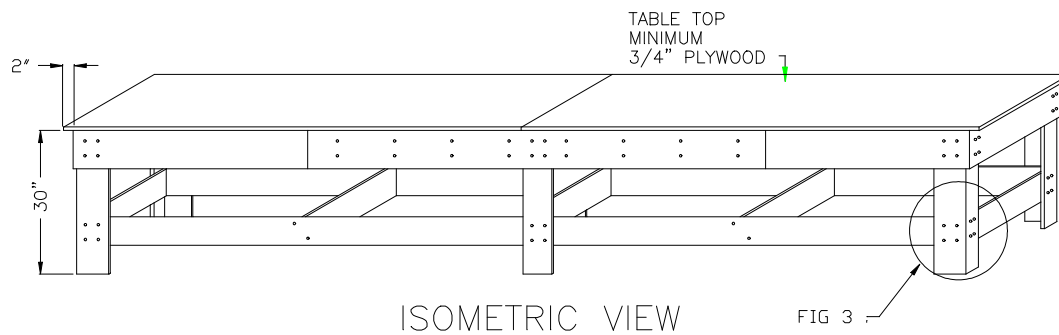

Fig 1.5
5. Screw through legs E into F and G and again in the corners using longer screws into J. See fig 1.5